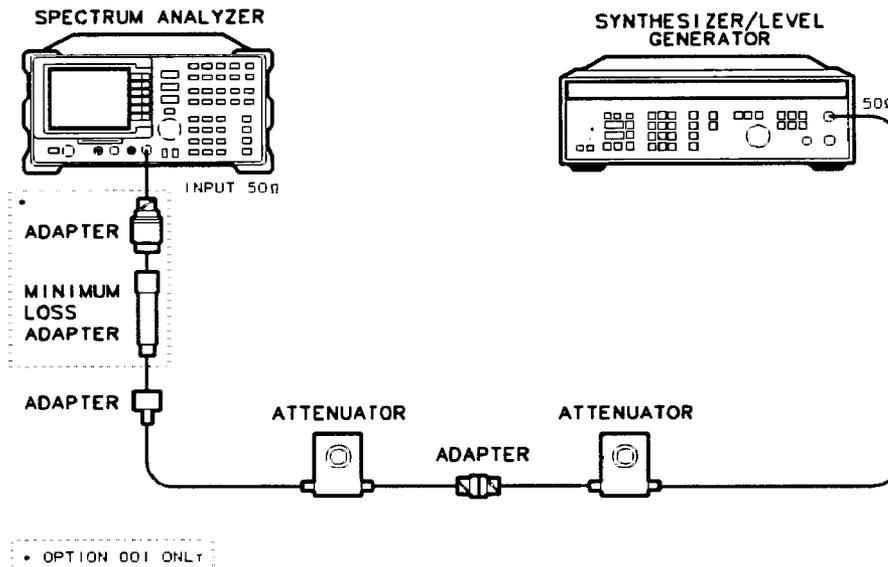

Figure 3-9. Reference Level Accuracy Test Setup
2. Connect the equipment as shown in Figure 3-9. Set the HP 355D to 10 dB attenuation and the 355C to 0 dB attenuation.